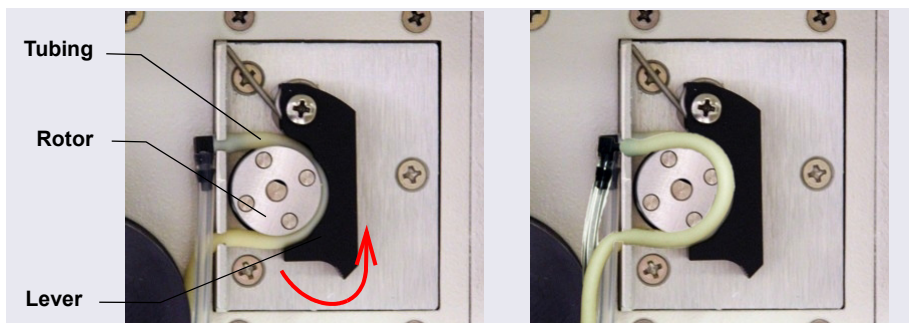

Figure 7-1. Peristaltic Pump for Seal Wash System
- Disconnect the tubing from the peristaltic pump on the component panel: lift the lever up and to the right, remove the tubing, and release the lever (see Figure 7-1).
- Disconnect the tubing from the peristaltic pump on the component panel: press the lever to the right, remove the tubing, and release the lever (see Figure 7-1).